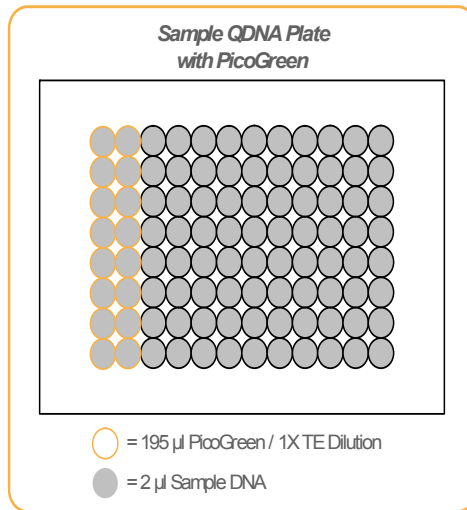

Figure 15 Sample QDNA Plate with PicoGreen
1. Using a multichannel pipette, transfer 195 μl PicoGreen/1X TE dilution into each well of columns 1 and 2 of the Fluotrac plate labelled "Sample QDNA" (Figure 15).